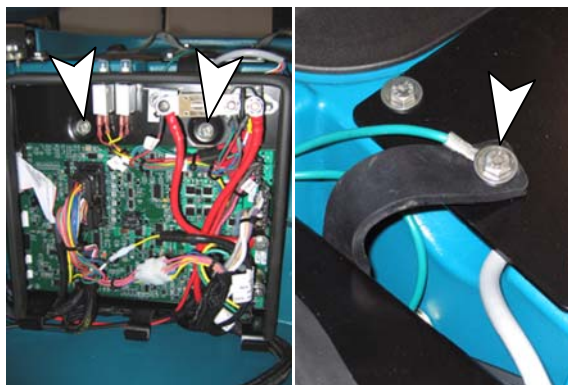

Fig. 3
2. Remove the (2) circuit board box mounting bolts. Be careful to not let the flat washers on the bolts fall behind the circuit board. Disconnect the static strap from the machine (Figure 3).